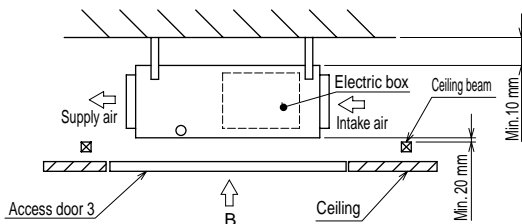

Fig. 3
(2) When a space of less than 300 mm is available below the unit between the unit and the ceiling (At least 20 mm of space should be left below the unit as shown in Fig. 3.)